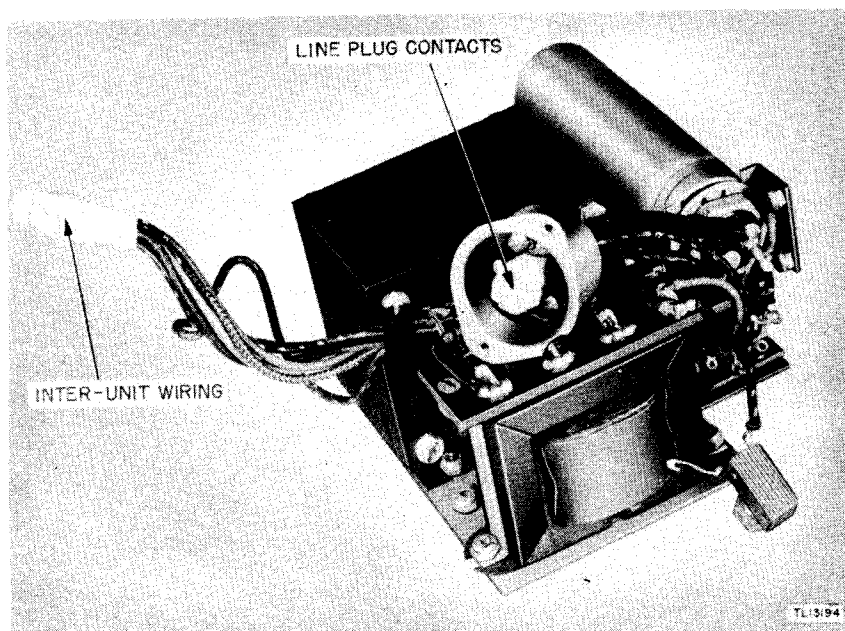

Figure 16. Rectifier RA-20 masked for moistureproofing and fungiproofing.
(7) Interunit wiring. (See fig. 16.)
(8) Line plug contacts. (See fig. 16.)
g. VARNISHING. (1) Apply three coats of moistureproofing and fungiproofing varnish (Lacquer, Fungus-resistant, Signal Corps stock No. 6G1005.3, or equal). Allow each coat to air-dry for 15 or 20 minutes before applying the next coat.